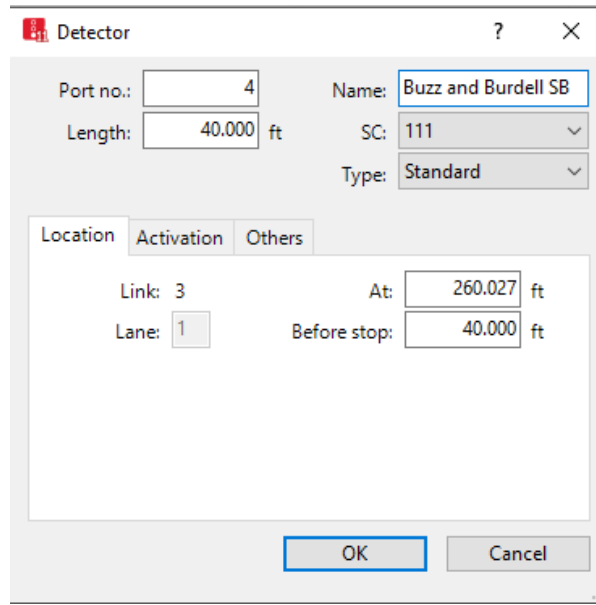

Figure 8: Buzz Blvd and Burdell Dr. Intersection SB Detector Pop-up Window
- step iv. The Detector pop-up box should now be displayed, Figure 8. (If a pop-up list appears Left-click *Add New Detector*. This means you have your user preference for a right-click set to *open the context menu*. I prefer to set the right click preference to *creates new object*. See Module 1 for more detail.)
- f. Set the *Before Stop* value equal to the length of the detector, this will set the detector starting at the *Signal Head*. (The *At* value is the position of the detector measured from the start of the link, this will automatically recalculate when you press OK. Your *At* value may also be a little different from that in Figure 8 depending on how you drew the network. You may need to close and open the *Detector* window before you can set the *Before Stop* value.)